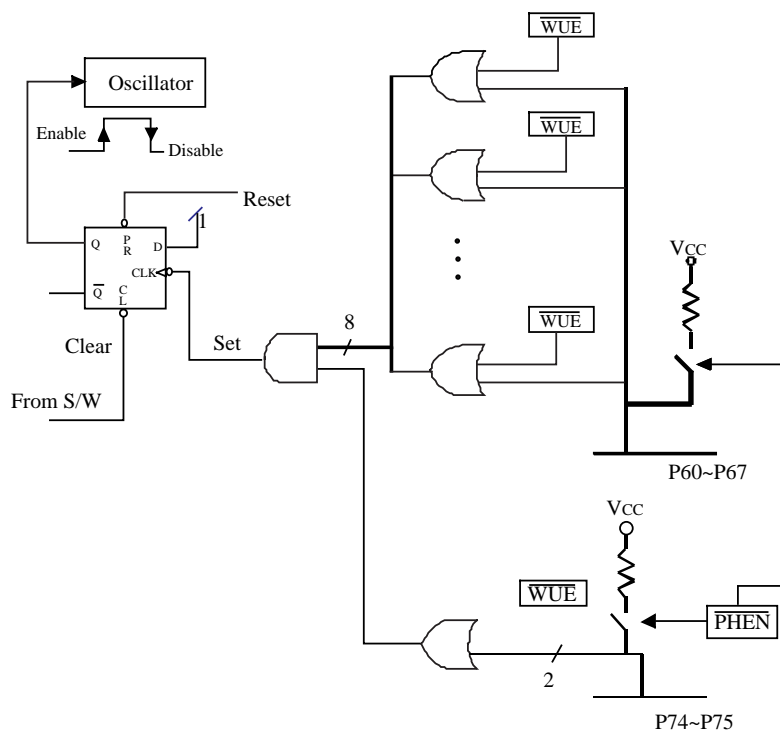

Fig. 5 Block diagram of sleep mode and wake-up circuits on I/O ports
Bit 4 (SLPC) This bit is set by hardware at the falling edge of wake-up signal and is cleared by software. SLPC is used to control the operation of oscillator. The oscillator is disabled (oscillator is stopped, the controller enters the SLEEP2 MODE) on high-to-low transition on SLPC bit and is enabled (the controller is awakened from SLEEP2 MODE) on low-to-high transition on SLPC bit. In order to ensure the stable output of the oscillator, once the oscillator is disabled and is enabled again, there is a delay for approximately 18 ms (oscillator start-up timer, OST) before the next instruction of program being executed. The OST is always activated by wake-up from sleep mode whether the Code Option bit WTC is “0” or not. After waking up, the WDT is enabled if Code Option WTC is “1”. The block diagram of SLEEP2 MODE and wake-up caused by input triggered is depicted in Fig. 5.
- (a) input triggered, refer to Fig. 5. When wake-up, the controller will continue to execute program in-line. In this case, before entering SLEEP2 MODE, the wake-up function of the trigger sources (P60~P67, and P74~P75) should be selected (e.g. input pin) and enabled (e.g. pull-high, wake-up control). One caution should be noted is that after waking up, the WDT is enabled if Code Option bit WTC is “1”. The WDT operation (to be enabled or disabled) should be appropriately controlled by software after waking up.